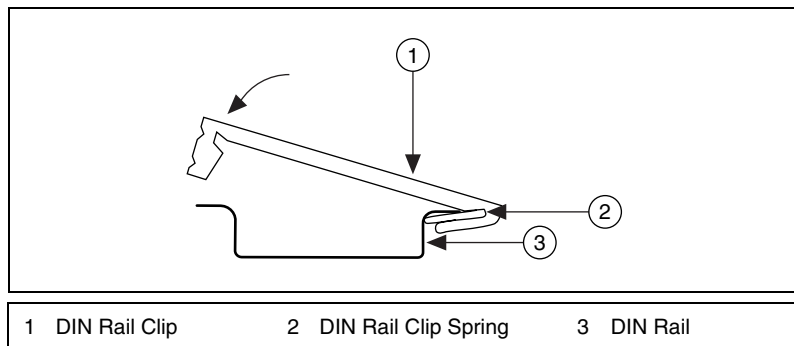

Figure 2-11. One Edge of DIN Rail Inserted in Clip
2. Insert one edge of the DIN rail into the deeper opening of the DIN rail clip, as shown in Figure 2-11.